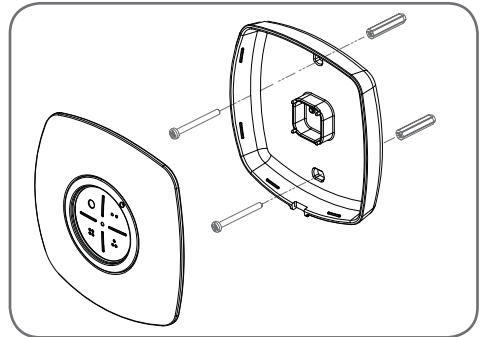

Fig. 8.2
- Mount the transmitter in a convenient location, yet out of reach of children and at least 1.5m off the ground (**Fig. 8.2**).